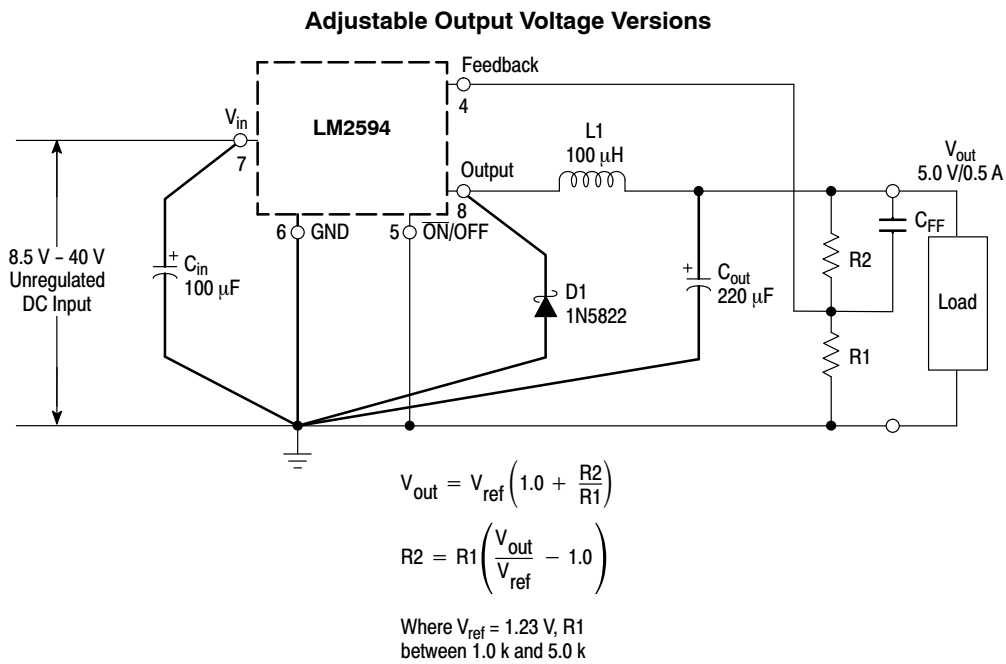

Figure 16. Typical Test Circuit
LM2594 (Note 1, Test Circuit Figure 16)
- External components such as the catch diode, inductor, input and output capacitors can affect switching regulator system performance. When the LM2594 is used as shown in the Figure 16 test circuit, system performance will be as shown in system parameters section.
TYPICAL PERFORMANCE CHARACTERISTICS (Circuit of Figure 16)
### TYPICAL PERFORMANCE CHARACTERISTICS (Circuit of Figure 16)
As in any switching regulator, the layout of the printed circuit board is very important. Rapidly switching currents associated with wiring inductance, stray capacitance and parasitic inductance of the printed circuit board traces can generate voltage transients which can generate electromagnetic interferences (EMI) and affect the desired operation. As indicated in the Figure 16, to minimize inductance and ground loops, the length of the leads indicated by heavy lines should be kept as short as possible.